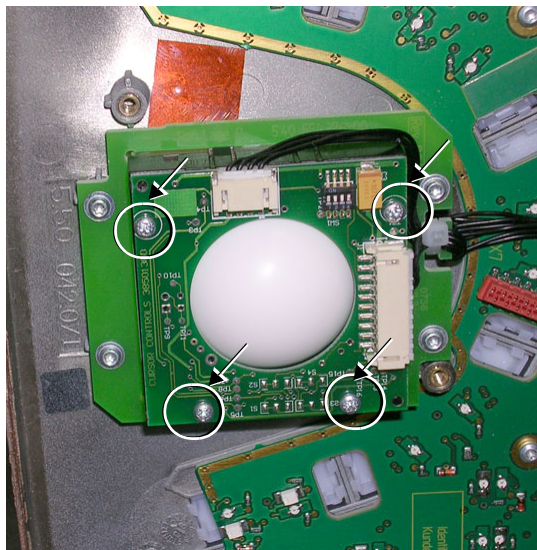

Figure 8-26 Trackball Removal
- 2) Tilt the Control Panel and Keyboard on its side and loosen and remove the four screws (two on either side of the bracket) that fasten the trackball assembly to the base of the Control Panel, as shown in Figure 8-26 below.
- 2) Carefully tilt the Control Panel and Keyboard on its side and return and fasten the four screws (two on either side of the bracket) to secure the trackball assembly to the base of the Control Panel (refer to Figure 8-26, above).
- 2) Loosen and remove the four hex nuts (two on either side of the bracket) that fasten the ECG Module assembly to the base of the Control Panel, as shown in Figure 8-26, above.